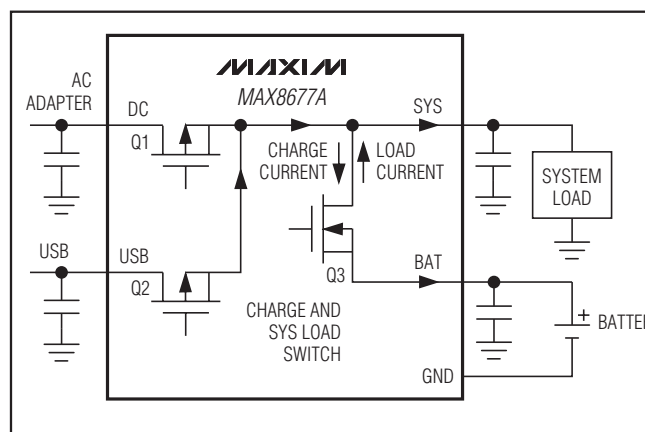

Figure 4. Smart Power Selector Block Diagram
The MAX8677A Smart Power Selector seamlessly distributes power between the external inputs, the battery, and the system load (Figure 4). The basic functions performed are:
An internal 40mΩ MOSFET connects SYS to BAT (Q3, Figure 4) when no voltage source is available at DC or USB. When an external source is detected at DC or USB, this switch is opened and SYS is powered from the valid input source through the input limiter.
The input voltage limiter is essentially an LDO regulator designed to run in dropout. While in dropout, the regulator dissipates a small I^2R loss through the 0.2Ω MOSFET (Q1, Figure 4) between DC and SYS. With an AC adapter or USB source connected, the input limiter distributes power from the external power source to the system load and battery charger. In addition to the input limiter's primary function of passing power to the system and charger loads at SYS, it performs several additional functions to optimize use of available power:
- **Input Voltage Limiting.** If an input voltage is above the overvoltage threshold (6.9V typ), the MAX8677A enters overvoltage lockout (OVLO). OVLO protects the MAX8677A and downstream circuitry from high-voltage stress up to 14V at DC and 8V at USB. In OVLO, VL remains on, the input switch that sees overvoltage (Q1, Q3, Figure 4) opens, and the appropriate power-monitor output (\overline{DOK} , \overline{UOK}) is high impedance, and \overline{CHG} is high impedance.
If both DC and USB see overvoltage, both input switches (Q1 and Q2, Figure 4) open and the charger turns off. The BAT-SYS switch (Q3, Figure 4) closes, allowing the battery to power SYS.
An input is also invalid if it is less than BAT, or less than the DC undervoltage threshold of 3.5V (falling). With an invalid input voltage, SYS connects to BAT through a $40m\Omega$ switch (Q3, Figure 4).
The total current through the switch (Q1 or Q2 in Figure 4) is the sum of the load current at SYS and the battery charging current. The limiter clamps at 5.3V, so input voltages greater than 5.3V can increase power dissipation in the limiter. The limiter power loss is $(V_{\text{DC}} - 5.3) \times I$, but not less than $I^2 \times 0.2\Omega$. Also note that the MAX8677A turns off any input that exceeds 6.9V (nominal).